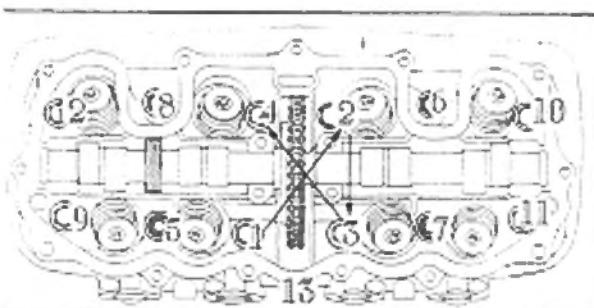

Fig. 3-20 Cylinder head nuts tightening sequence
2. Apply a coat of engine oil to the threads of the nut and tighten the nuts in a criss-cross pattern, starting at the internal one as shown in Fig. 3-20.